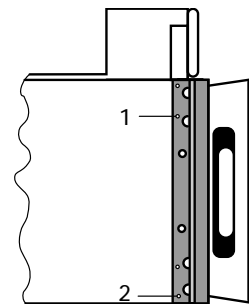

fig. 7
- Remove the protective frame by removing screws 1 and 2 (see fig. 7). Remove the frame and replace screws.